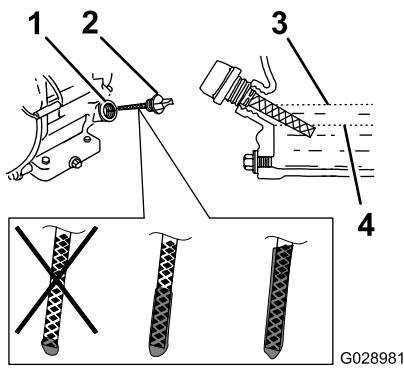

Figure 46
6. Remove the dipstick (Figure 46) and slowly pour oil into the fill hole until the oil reaches the upper-limit mark (bottom edge of the oil-fill hole) on the dipstick.